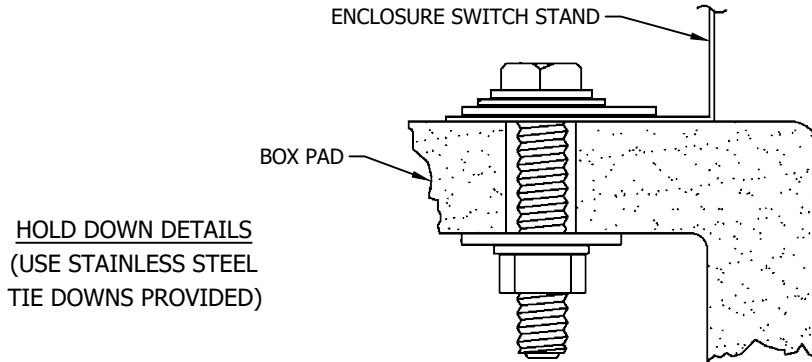

FIGURE 26
T. SET THE SWITCH ON THE BOX PAD. USING A 1/2 INCH DRILL BIT, DRILL THROUGH THE EXISTING HOLES IN THE SILL FLANGE AND THROUGH THE BOX PAD. BOLT DOWN AS SHOWN IN HOLD DOWN DETAIL. SEE FIGURE 26.